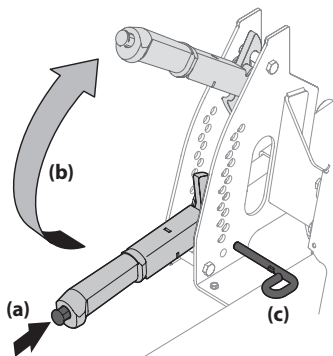

Figure 3-2
1. Depress the button at the end of the deck lift lever (a), raise it into the transport/highest mowing position, hang the top hook from the upper spacer on the deck height index bracket (b) and then remove the pin (c). See Figure 3-2.